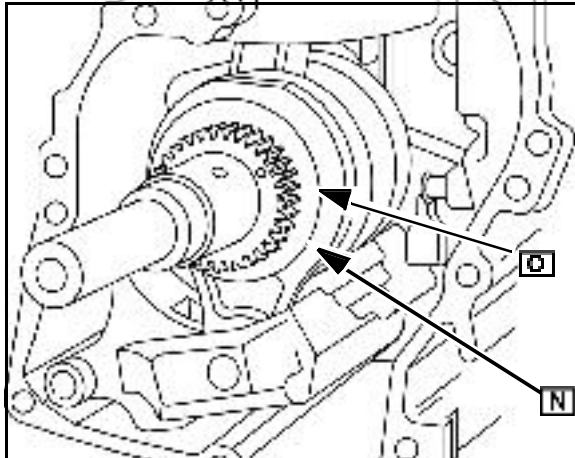

Fig. 14
3. Install counterweight assembly into cylinder and slide link (N) on to crankshaft eccentric ([O] Fig. 14).